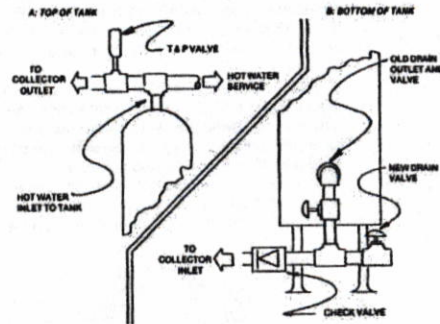

Fig. 13: Plumbing for an open system using thermosiphon
**Mh:** There is a proper way to plumb the solar collector to the standard water heater, too. Today's water heaters position the cold-water inlet and hot-water outlet at the top of the tank. Cold incoming water to the tank actually drops through a tube inside the water heater which ends just above the bottom of the tank. For thermosiphon flow, this is not a good arrangement; you want the cold water return to the collector to exit directly from the bottom of the tank (Fig. 12). Fortunately, water heaters have a drain valve. There is a way to re-arrange this plumbing (Fig. 13) so that the collector will use this orifice for its thermosiphon loop while you retain the ability to drain the tank.